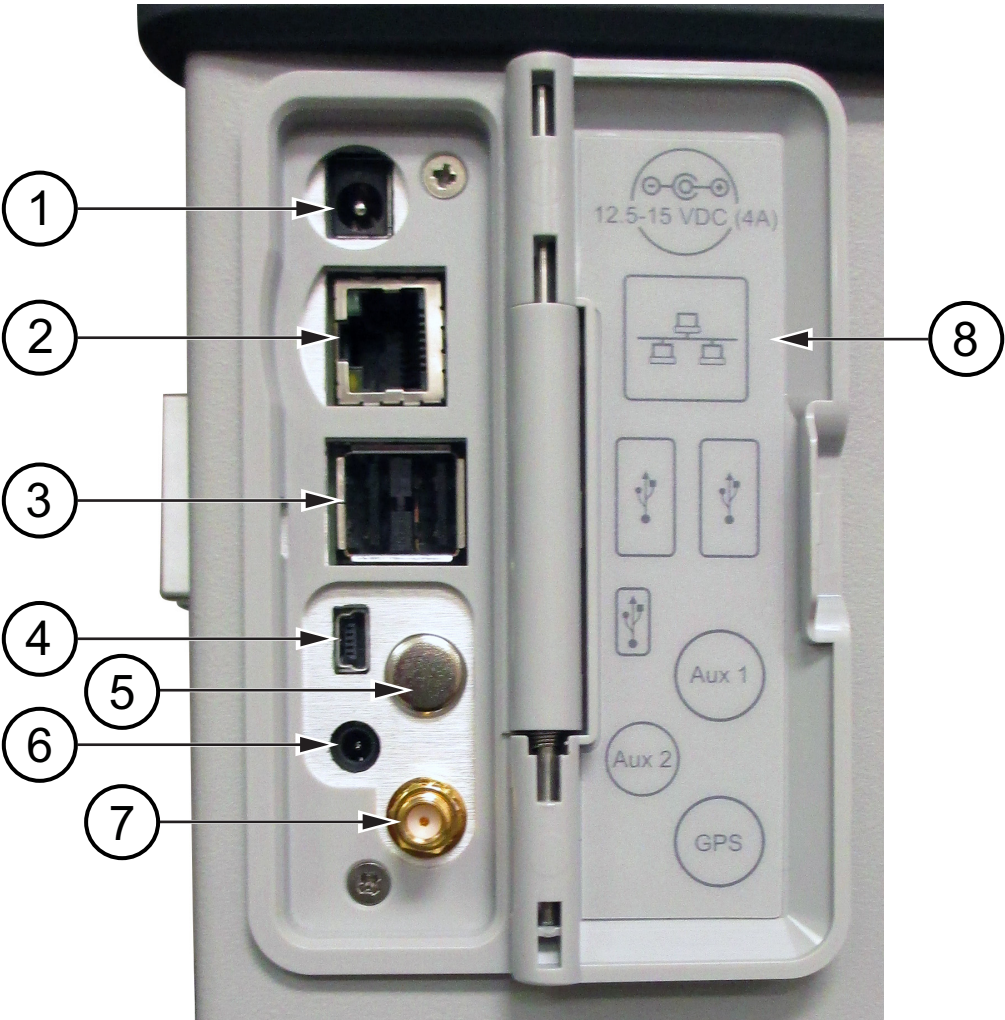

Figure 2-7. PIM Master Side Panel Overview
(item 1 in Figure 2-7)
(item 2 in Figure 2-7)
(item 3 in Figure 2-7)
(item 4 in Figure 2-7)
(item 7 in Figure 2-7)